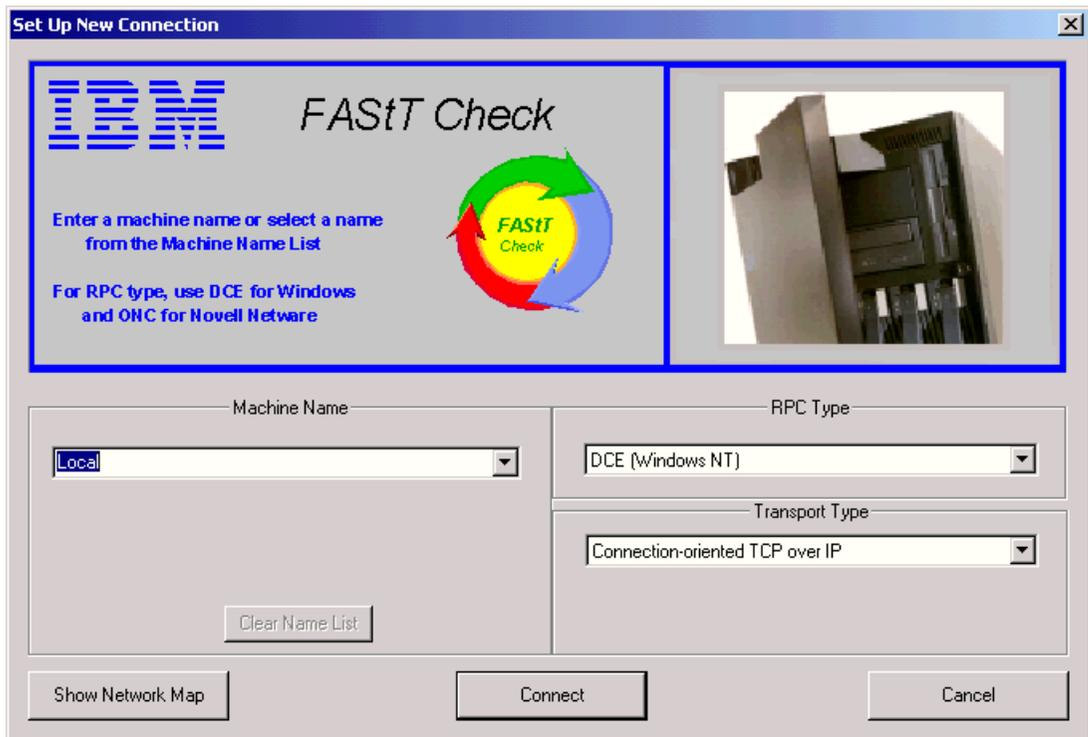

Figure 3-11 FAST Check main window
1. Start the FAST Check application to open the main window (shown in Figure 3-11):